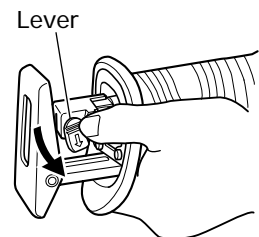

Fig. 6
- (2) Push the lever in the direction of the arrow mark shown in Fig. 6 marked on the lever. (Fig. 6)
- (2) After you have pushed the lever in the direction of the arrow mark shown in Fig. 6, turn the blade so it faces downward. The blade should fall out by itself. If the blade doesn't fall out, pull it out by hand.